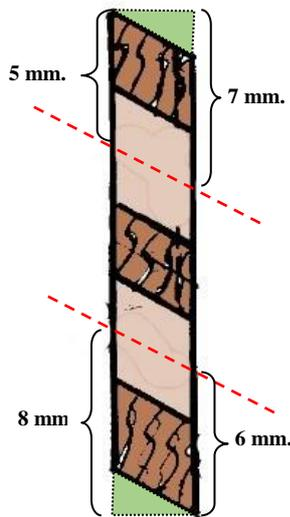

Figure 15: Mast Cap
- different block used was *not bevelled*. Fig. 15 show how the initial dimensions were made on such a block.